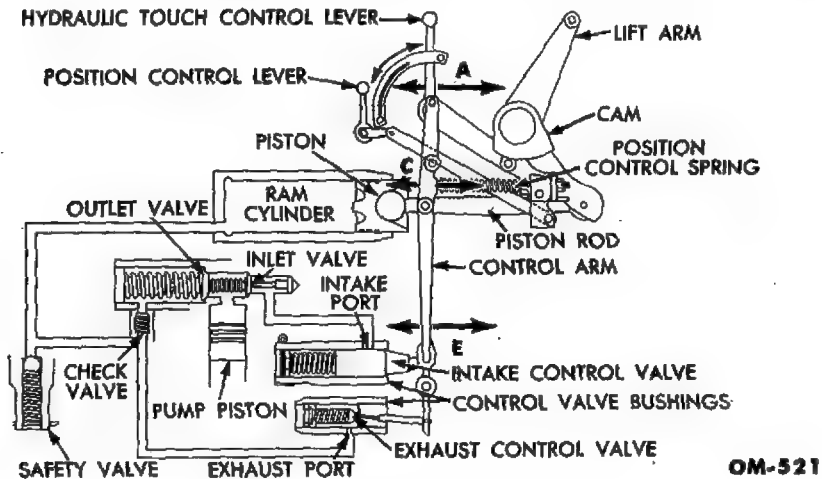

Fig. 62—Position Control
(6) *VARIATION IN SOIL TEXTURE.* Variations in soil texture will change slightly the draft on an implement. If the draft tends to increase, the action of the hydraulic control is the same as outlined in subpar. (4). If soil variation tends to decrease the draft, the action of the hydraulic control is similar to subpar. (5). When necessary, the operator may easily make small adjustments with the hydraulic touch control lever.
e. *Position Control.* The position control is illustrated in fig. 62. For position control operation, the position control lever is placed in the vertical position. When using position control, the control arm functions on points A, C, and E (fig. 62). Pivot point A is manually positioned by the hydraulic touch control lever. Pivot point C is positioned by the cam on the lift arm assembly. A lowering of the lift arms will move point C to the left. Point E can position the control valves in an intake, neutral, or exhaust position. The following subpars. list the sequence of events in position control.